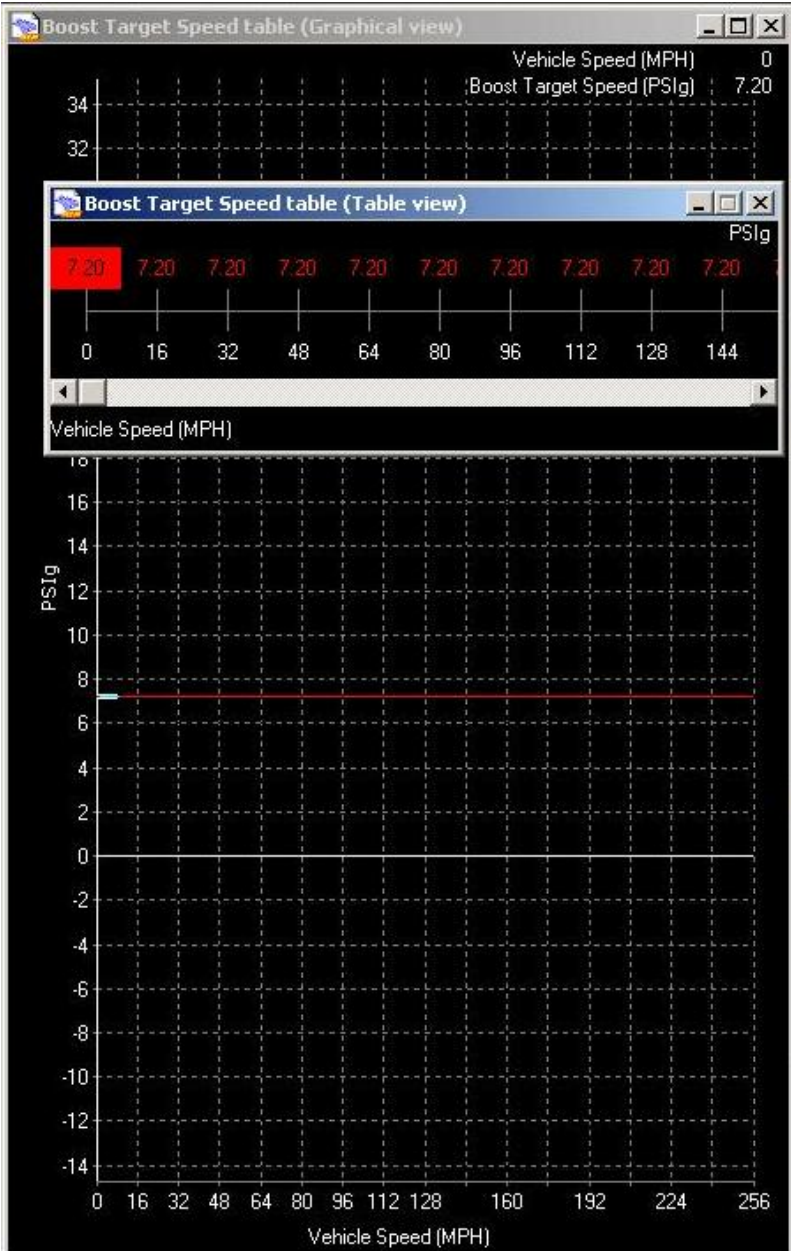

Fig. 2 – Boost Target Speed Table
10. Find the **Boost Target Speed** table (Fig. 2) and set all values to a low boost amount slightly over your wastegate spring pressure. In this example, with a 6 PSI wastegate spring pressure, we use 7.20 psi. What this is telling the controller is that for all vehicle speeds, limit boost to 7.20 PSI.